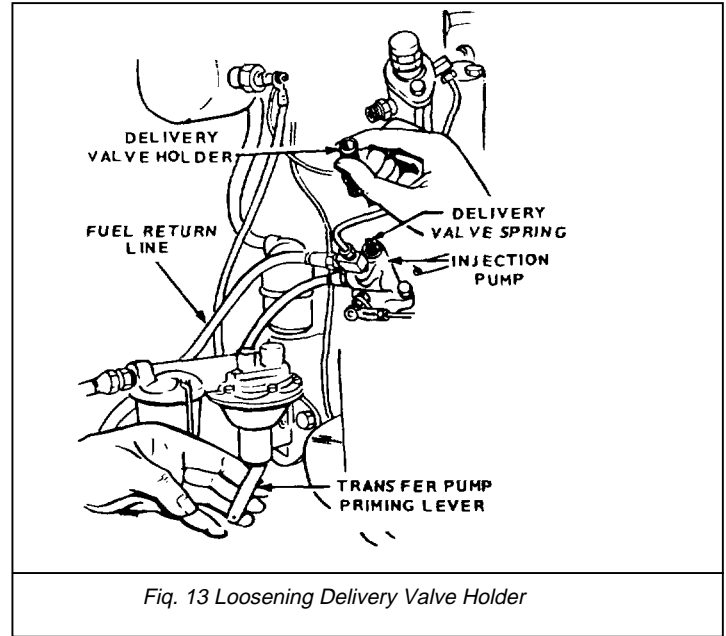

Fig. 13 Loosening Delivery Valve Holder
- (1) Install pump with .006 in. shims between pump and pad.
- (2) Loosen the delivery valve holder to relieve pressure on spring (Fig. 13).
- (3) Rotate the flywheel to about 15° before the port closing (PC) point. Blow in the pump inlet and rotate the flywheel slowly clockwise until air stops coming out of the pump outlet. This is the port closing point.
- (4) Measure the distance from the point where